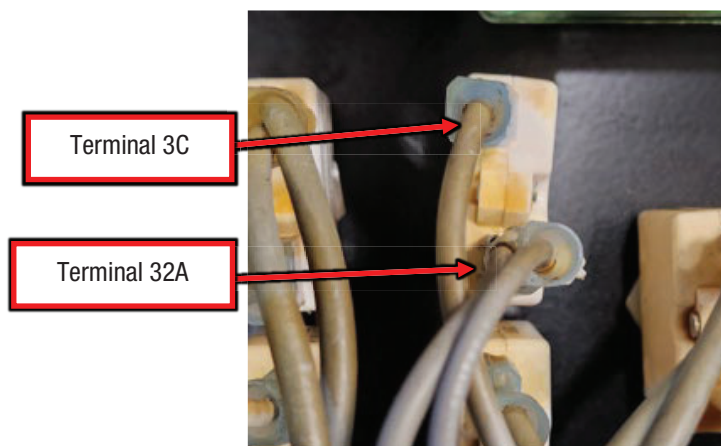

Figure F.3
A.3. Perform the static measurements in Test Table 1, refer to Figure F.3 for test point locations. NOTE: MEASUREMENTS ARE MADE ON CB2 WITH THE LEADS REMOVED.